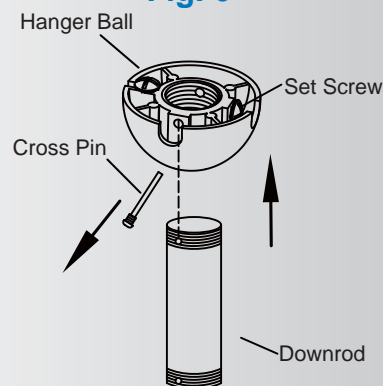

Fig. 7
Step 3. Use a screwdriver to loose the safety cross pin and remove it from downrod assembly. Loose the set screw and rotate the hanger ball off the downrod. (Fig. 7)